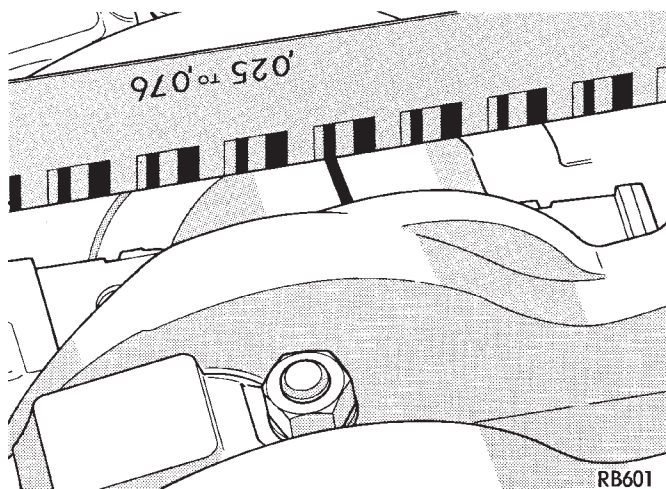

Fig. 15 Measuring Bearing Clearance with Plastigage
- (1) Remove oil from journal and bearing shell.
- (2) Install crankshaft.
- (3) Cut plastigage to same length as width of the bearing and place it in parallel with the journal axis (Fig. 15).
- (4) Install the main bearing cap carefully and tighten the bolts to specified torque.
(5) Carefully remove the bearing cap and measure the width of the plastigage at the widest part using the scale on the plastigage package (Fig. 15). Refer to Specifications for proper clearances. If the clearance exceeds the specified limits. Replace the main bearing(s) and if necessary have the crankshaft machined to next undersize. Also see Measuring Main and Connecting Rod Bearing Clearance in Standard Service Procedures.